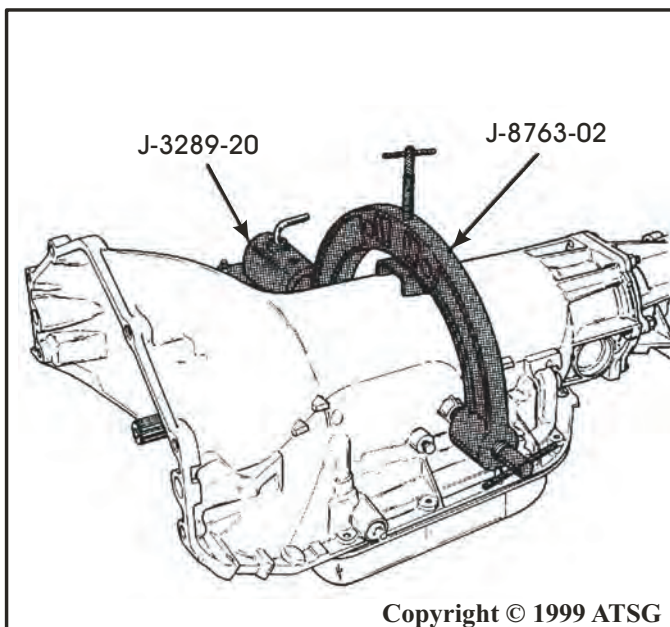

Figure 35
2. For safety considerations, install transmission holding fixture as shown in Figure 35.